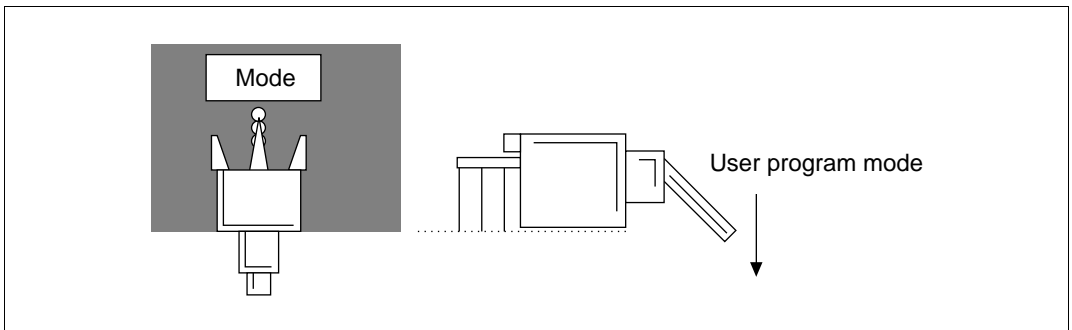

Figure 4.8 Programming Mode Switch Setting
3. Set the adapter board's mode switch to user program mode (figure 4.8).